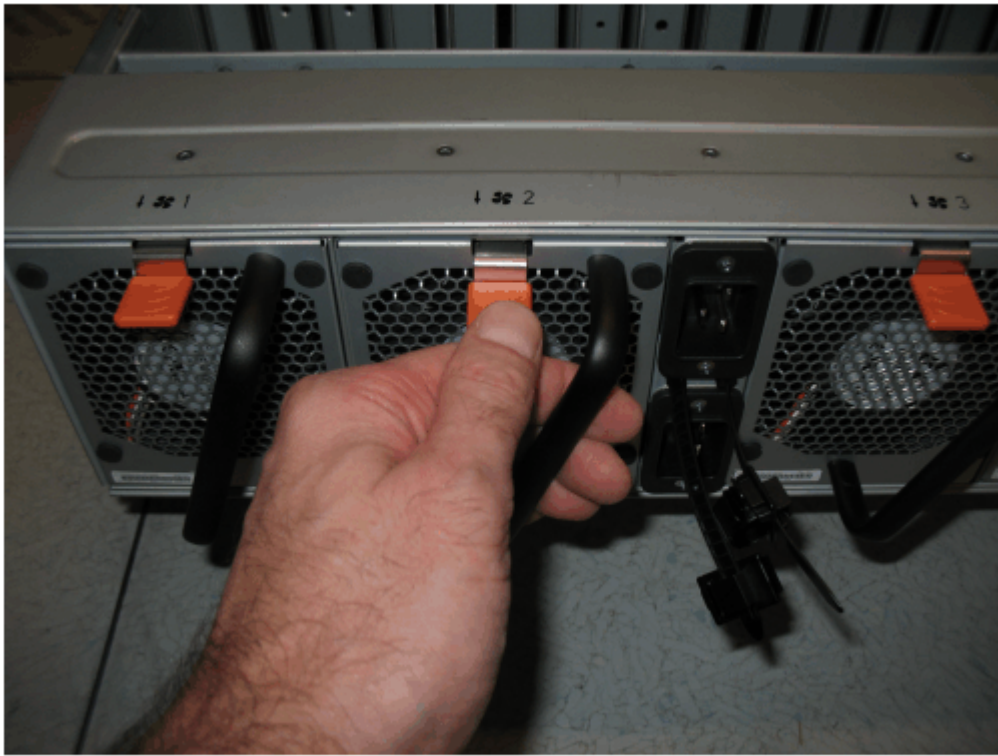

Figure 170. Fan module release tab
2. Press the release tab on the fan module, as Figure 170 on page 226 shows.